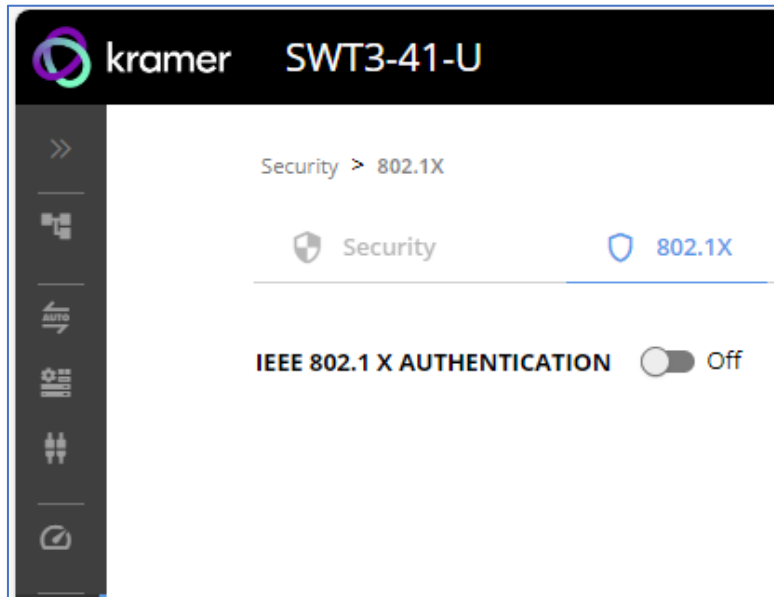

Figure 31: 802.1X Tab
2. Select **802.1X** tab. The 802.1X settings tab appears (see Figure 31).